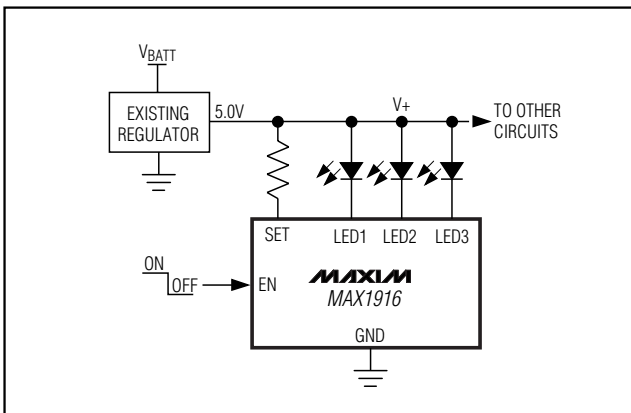

Figure 4. Existing 5V Supply Circuit
- 3) Existing 5V Supply (Figure 4). Use an existing system regulator, such as the MAX684, to provide the required LED voltage and provide power to other circuits. Due to the high forward voltage of white LEDs (3.3V), use a 3.6V to 5.5V regulated supply to provide enough voltage headroom such that the LEDs will maintain constant brightness for any battery voltage. Use the existing regulated supply as V_{CTRL} .